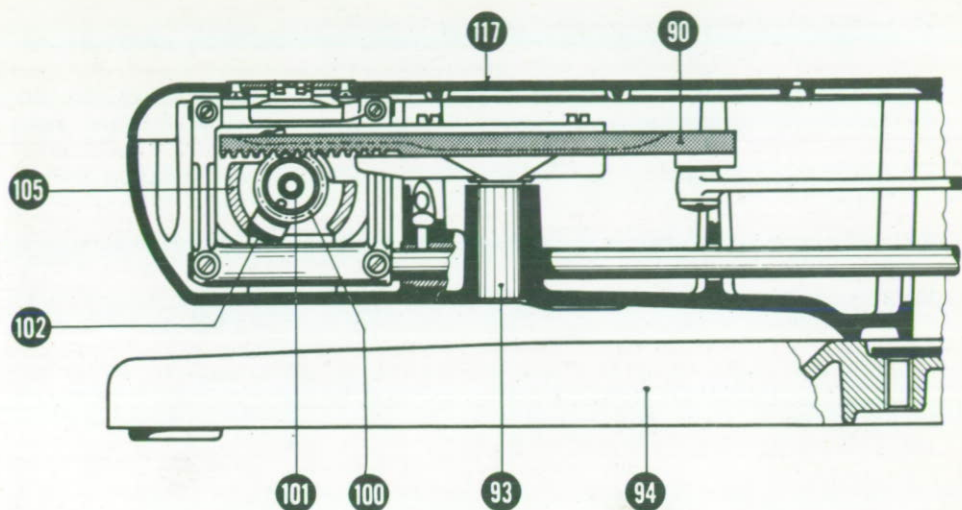

Fig. 28
comes smaller. Don't forget to retighten screw (91) Fig. 28.